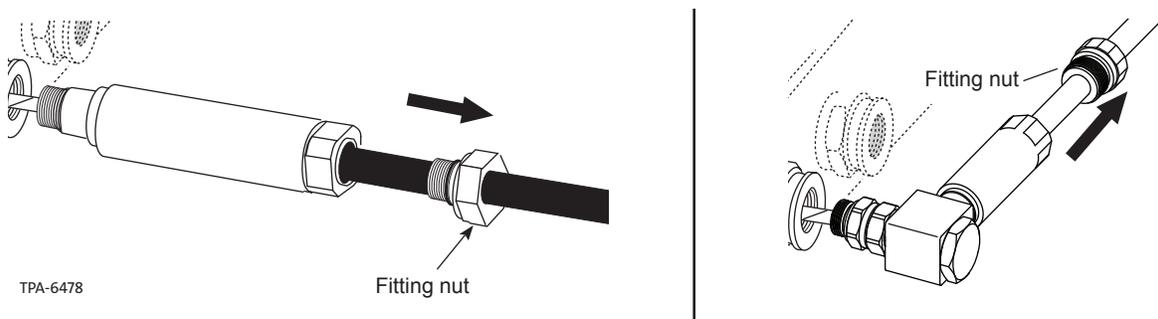

Figure 6
**Step 7:** Unscrew the fitting nut from the assembly body – use an adjustable wrench if necessary. Slide the fitting nut down the cable until it is out of the way (Figure 6).